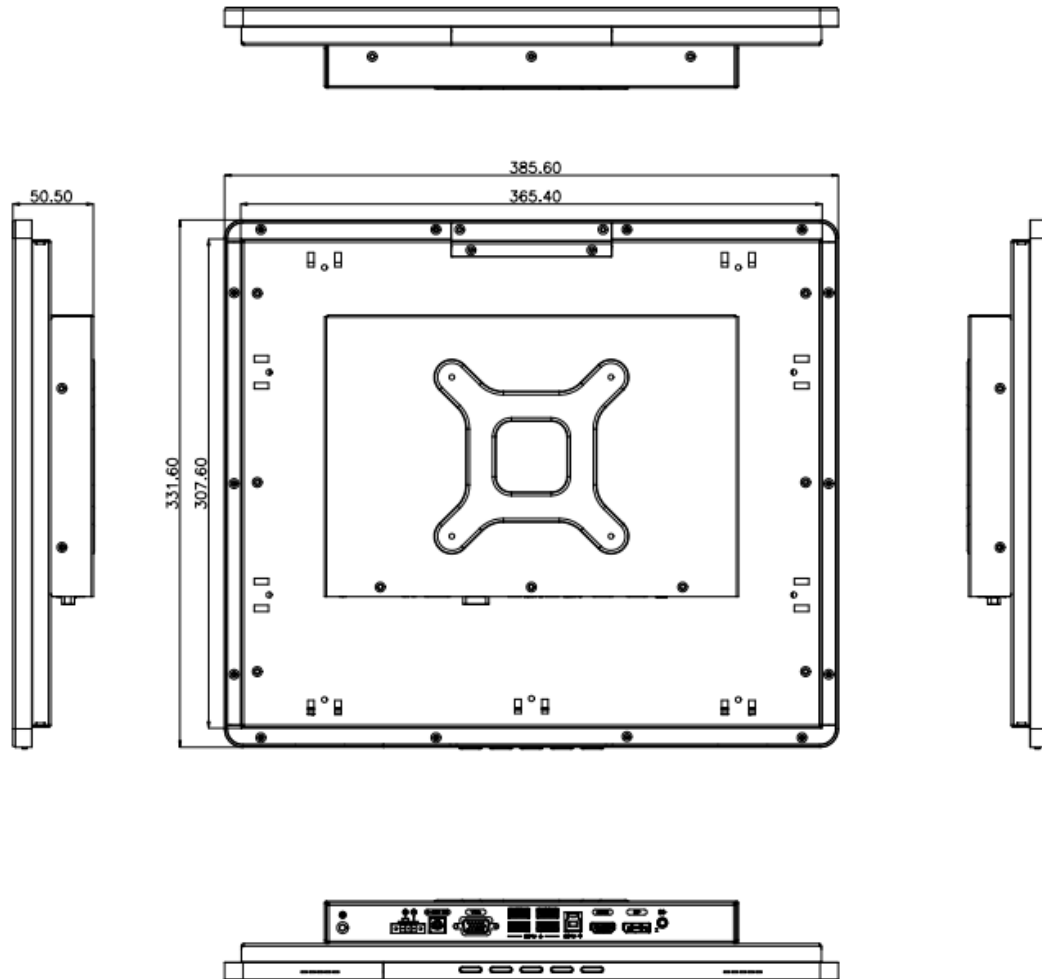

Figure 1-17: DM2-170H(L) Physical Dimensions (Unit: mm)
1.9.11 DM2-170H(L) Physical Dimensions
The physical dimensions of the DM2-170H(L) are shown in the **Figure 1-17**.